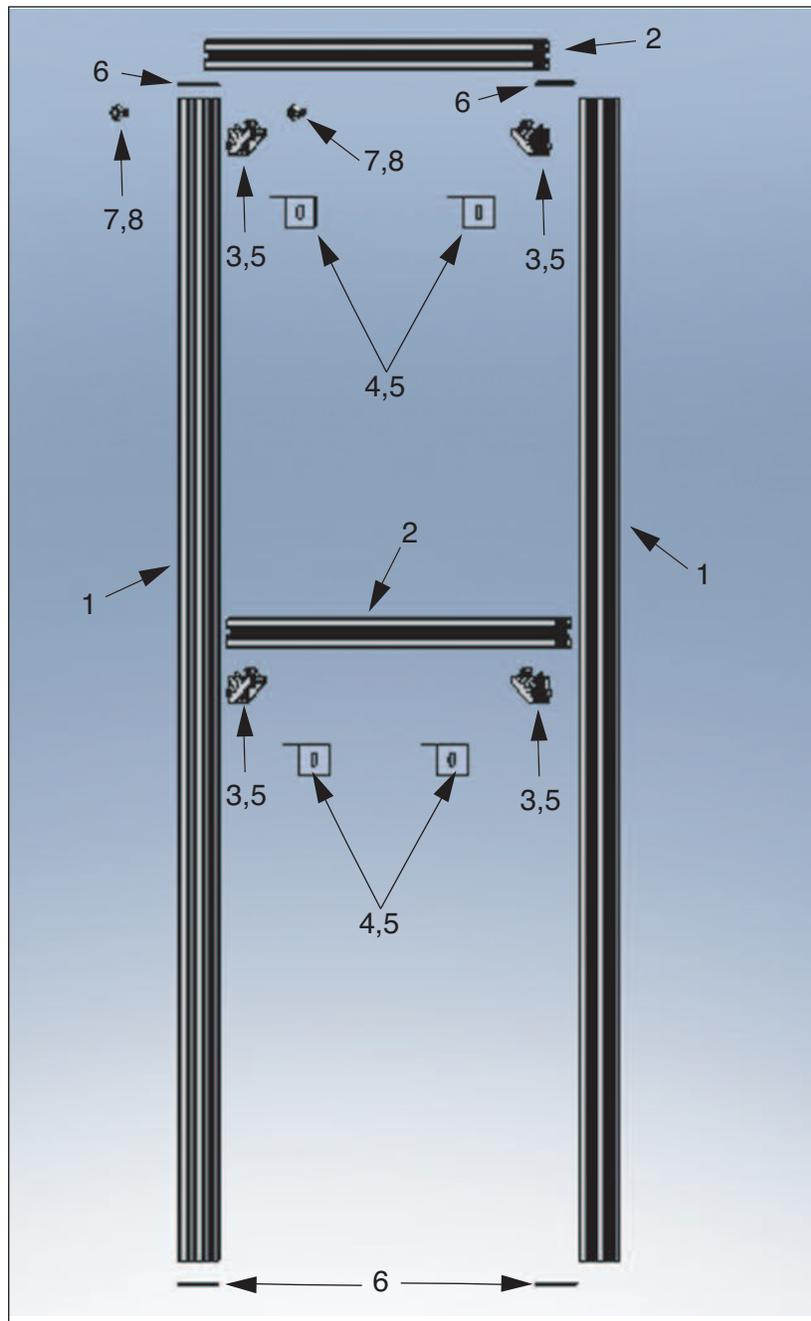

Fig. 1: Prestige SOLO Wall Frame Components
Parts List (Fig.1)
1. Layout all components as shown in Figure 1 and confirm that nothing is missing.